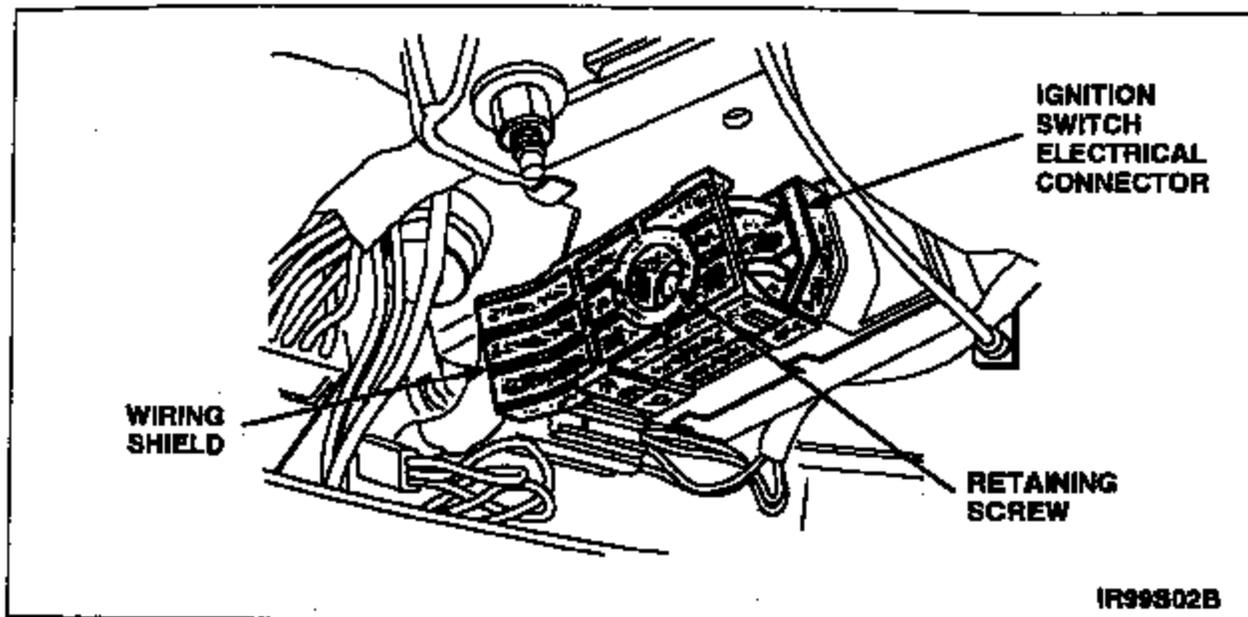

FIGURE 2
4. Completely loosen the ignition switch electrical connector retaining screw, then disconnect the ignition switch electrical connector. See Figure 2.